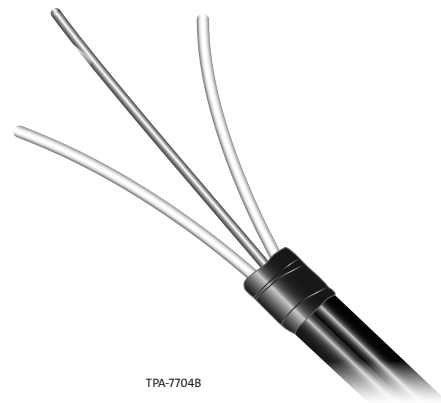

Figure 7
Step 6: Using the diagonal cutters, clip the dielectric strength members to the desired length (Figure 7). Leaving 6 inches of strength members is an adequate amount since the strength members can always be cut shorter later if required.